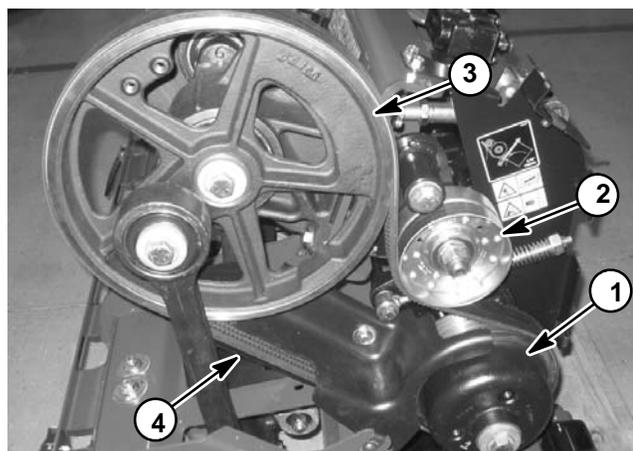

Figure 23
3. Lift idler pulley, route drive belt under idler pulley and install belt onto drive pulley (Fig. 23).
4. Apply tension to idler pulley by adjusting idler nut (item 16) until compression spring length is **5.750" (145 mm)**. Secure idler nut location with lock nut (item 15).
5. Raise rotolink damper for #1 stomper arm to coring head frame. Make sure that damper standoffs and bumper are on damper studs. Secure damper to coring head frame with two (2) D washers and lock nuts (see Rotolink Damper Assembly in this section).
6. Make sure that tinnerman nuts (item 1), flat washer (item 8) and cap screw (item 9) are on frame. Position belt guard to machine. Secure belt guard to support with flange nut (item 7), two (2) flange head screws (item 6) and flat washers (item 5).